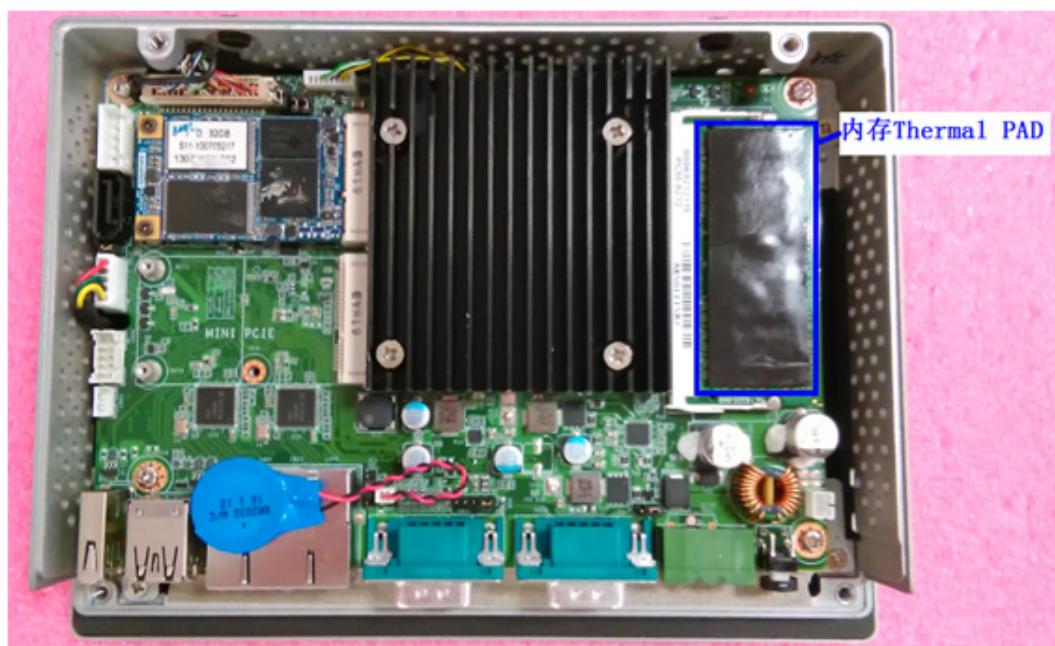

Figure 2.6 Attaching the Thermal Pad on the Memory
**Warning!** Please make sure the thermal pad (in the accessory box) is attached on the memory surface as in figure 2.6.